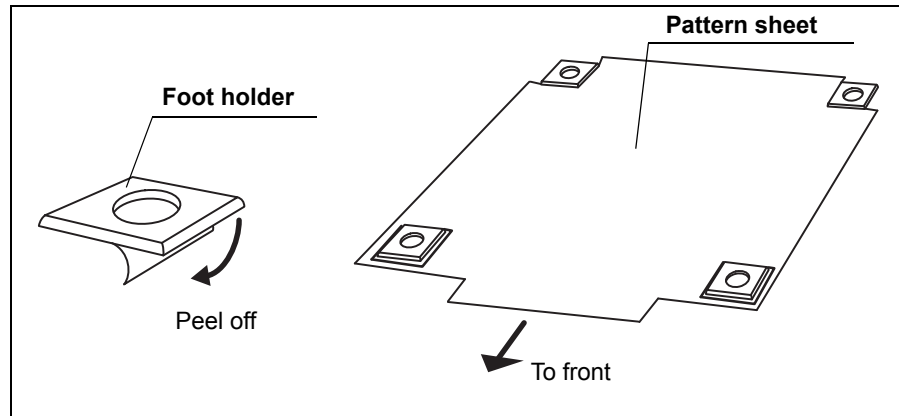

Figure 7.4
1. Place the pattern sheet provided with the foot holders on the installation location. Peel the paper from the bottom of the foot holders and lightly attach the foot holders against the sheet (see Figure 7.4).